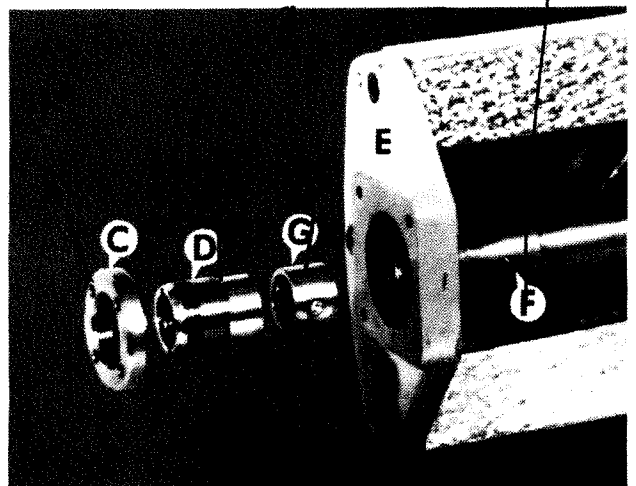

Figure 2.13 - Cross Feed Screw Nut Components
11. Remove screw "F", Figure 2.13 .
1. Replace half nut "G", Figure 2.13 .